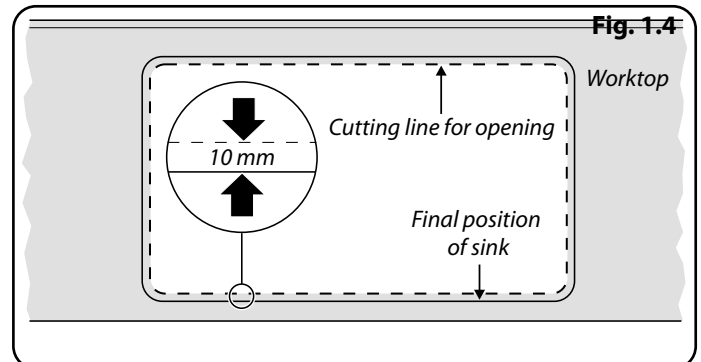

Fig. 1.4
2. Draw another line 10 mm inside the sink top outline – this is the cutting line for the opening (Fig. 1.4).